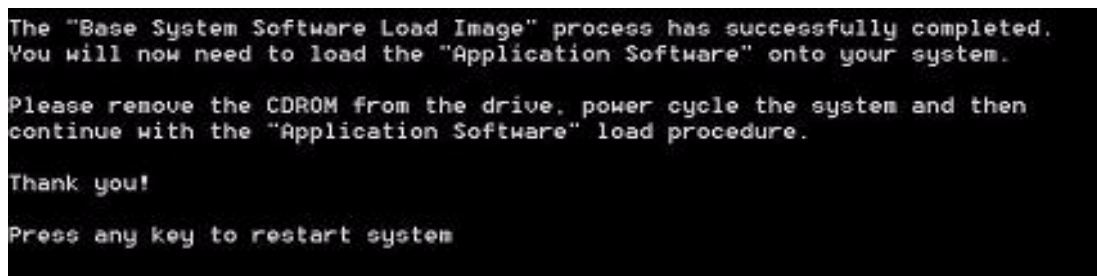

Figure 3-26
8.) After finish updating system CD, take out "System Software CD" from CD-RW, prepare to upgrade "Application Software". Refer to Figure 3-26 on page 3-29